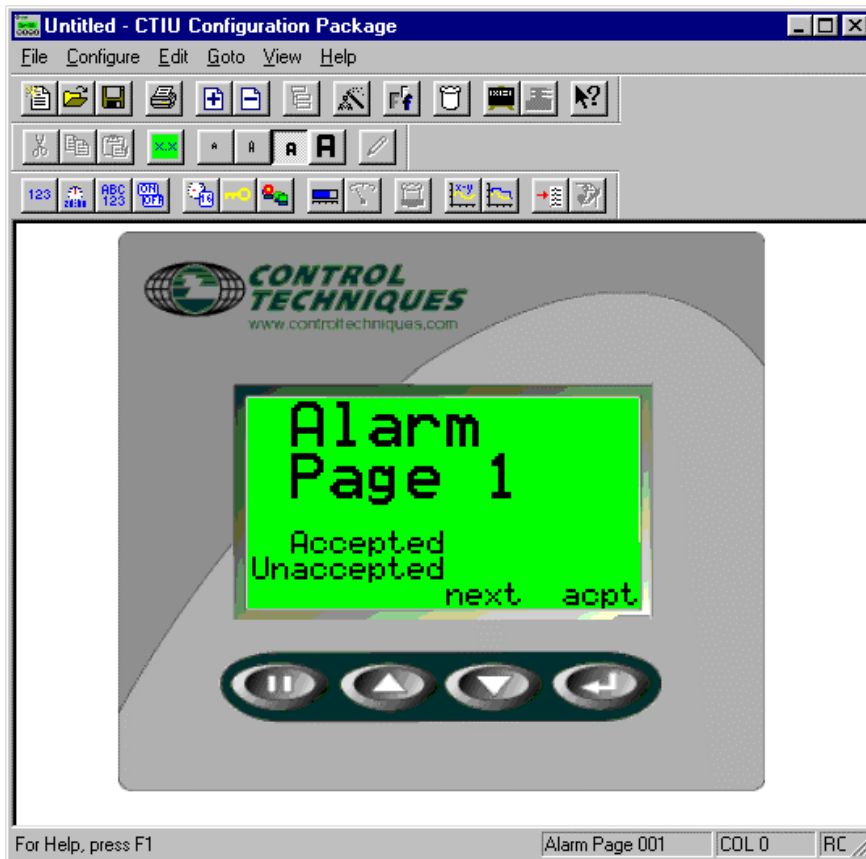

Figure 12.14 - Alarm Page 1 Screen
8. Enter text in Figure 12.14.